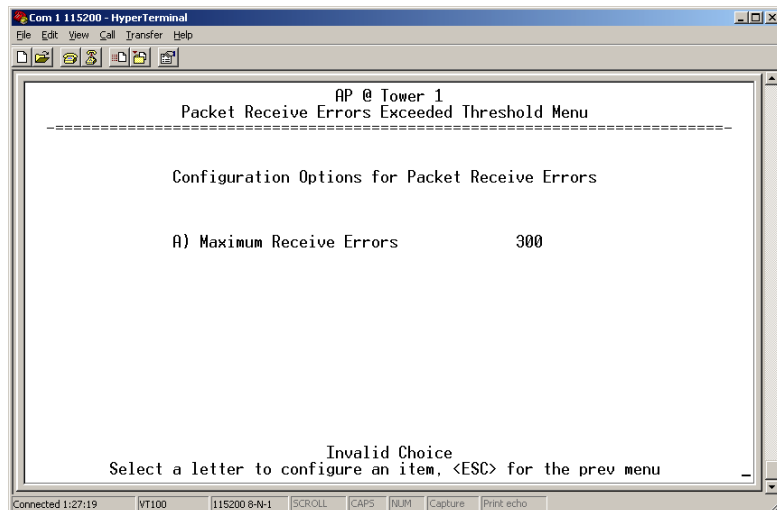

Figure 3-39. Packet Receive Errors Exceeded Threshold Menu
- **Packet Receive Errors exceeded threshold**— This setting determines whether or not a switchover occurs when the number of Packet Receive errors exceeds the number set in Figure 3-39 on Page 67. [**enabled, disabled; disabled**]
- **Packet Receive Errors Exceeded Threshold**—This selection presents a submenu (Figure 3-39) where you can view or change the maximum allowable number of receive errors.